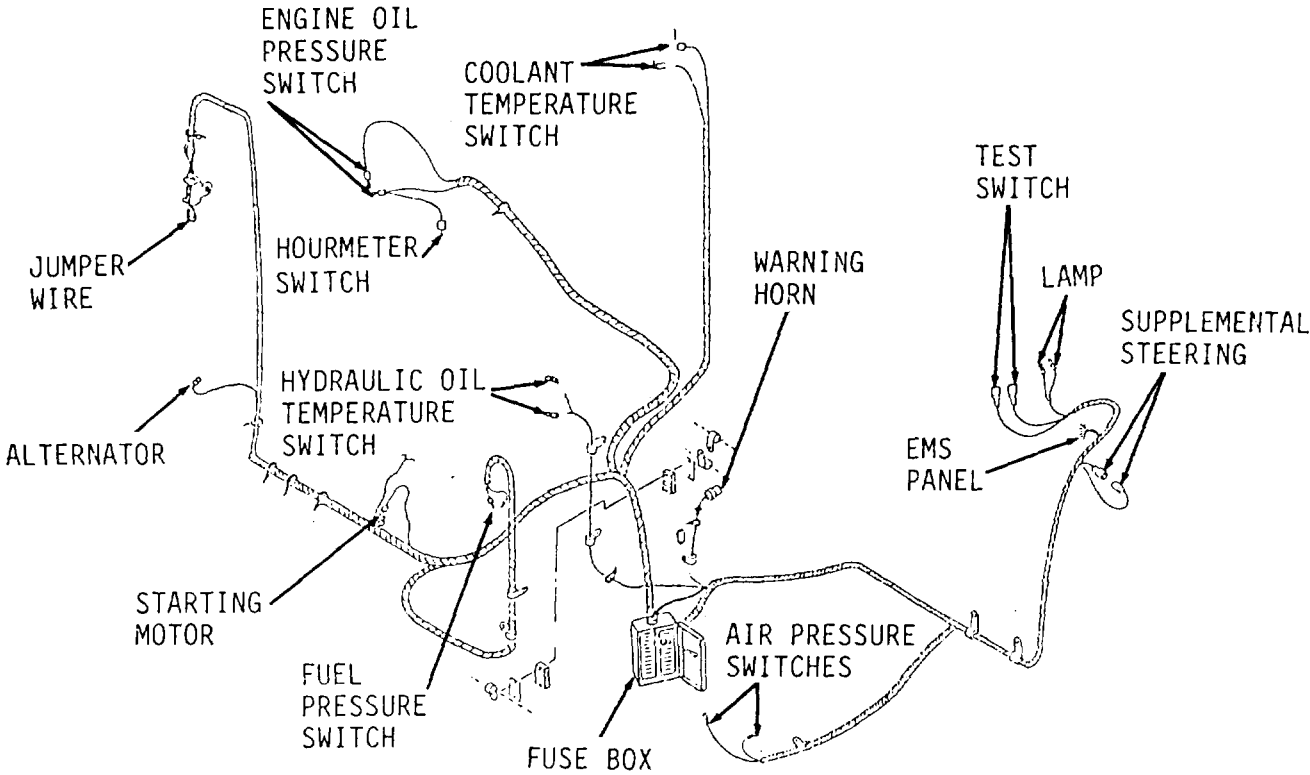

Figure 4-93.
- 1. Position monitor main harness assembly in vehicle (Figure 4-93).